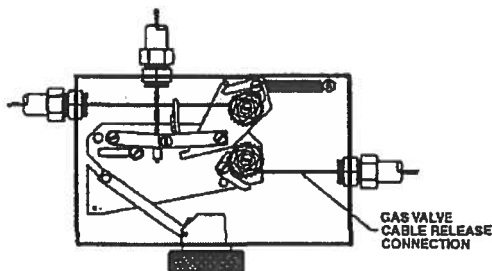

Figure 4-19. Gas Valve Line Termination.
The gas valve line can now be put into a set position by applying tension to the gas valve line. This is accomplished by using a 1/2 in. hex wrench on the gas valve ratchet wheel. The ratchet wheel will be ratcheted in a clockwise direction until the gas valve is fully open. Secure the gas valve cover plate to the gas valve box with the four (4) screws provided. The gas valve line is now in a set position. See Figure 4-19.